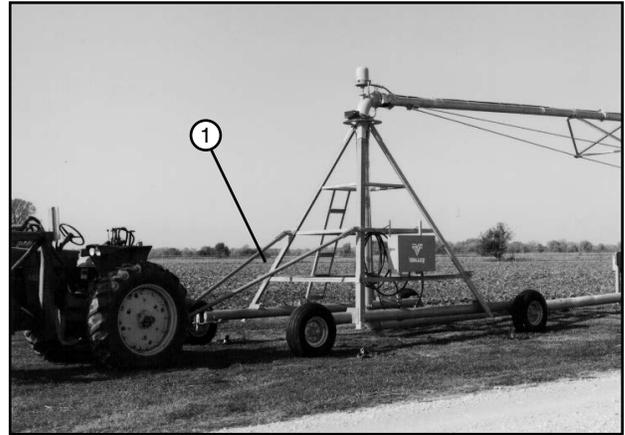

Figure 55-1 1. Tongue
11. Hook tongue to the towing unit. See Figure 55-1.